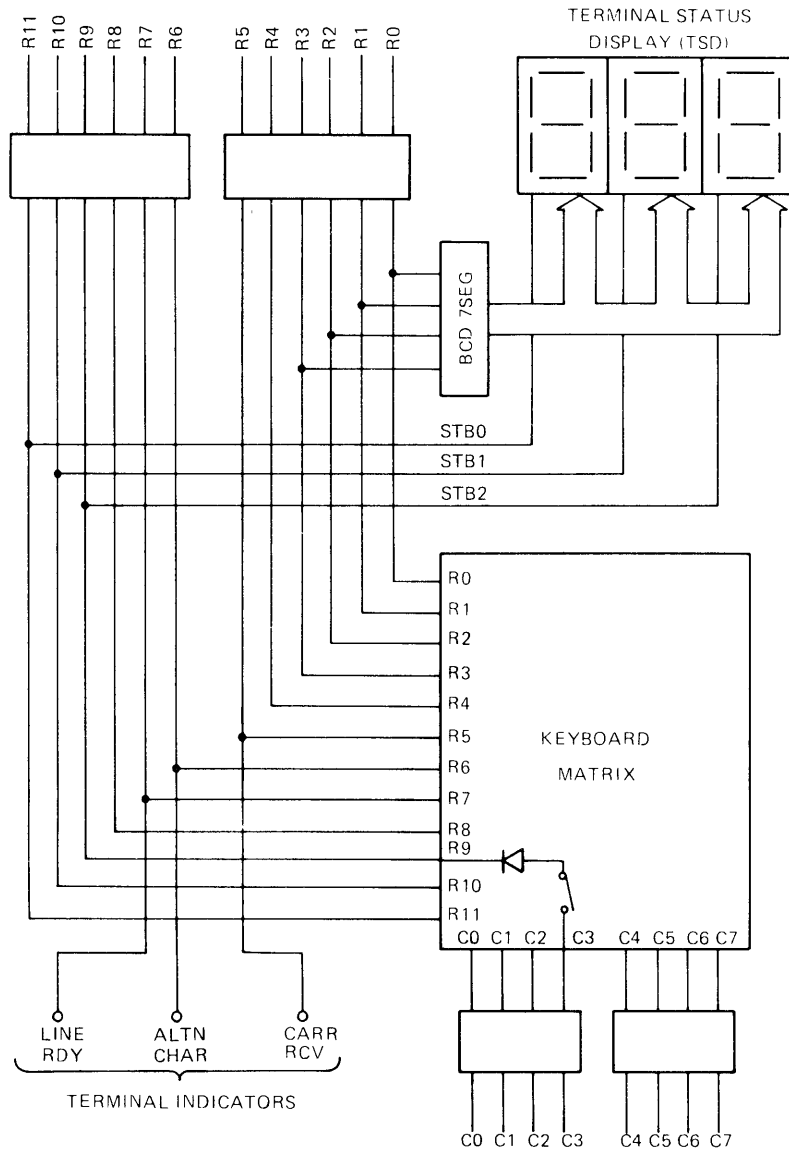

Figure 4-18 Keyboard PWB Simplified Diagram
4.4.4 KEYBOARD INTERFACE. All references in this subsection apply to drawing 999945, sheets 7 and 8. The keyboard interface connects the data bus of the Z-80A CPU to the row inputs and column outputs of the keyboard. The keyboard interface also connects the data bus to the ribbon motor drive inputs. The data bus is an eight-bit bidirectional bus. The terminal electronics PWB, which includes the keyboard interface logic, is connected to the keyboard PWB by a 25-conductor ribbon cable (the center conductor is not used). A simplified block diagram of the keyboard PWB is shown in figure 4-18.